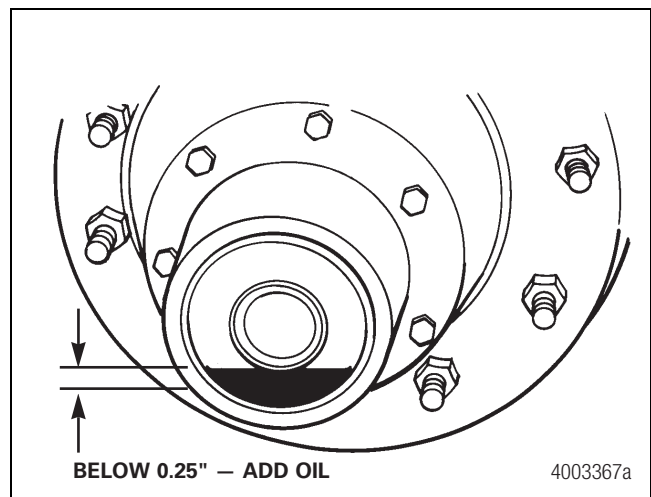

Figure 5.14
10. Fill the wheel end with oil to the hubcap fill line. Note that the oil must be given sufficient time to settle prior to the final check of the oil level. This is especially important in cold conditions. Install the hubcap plug, verifying that the vent hole, if present, is not clogged with debris. Figure 5.14.